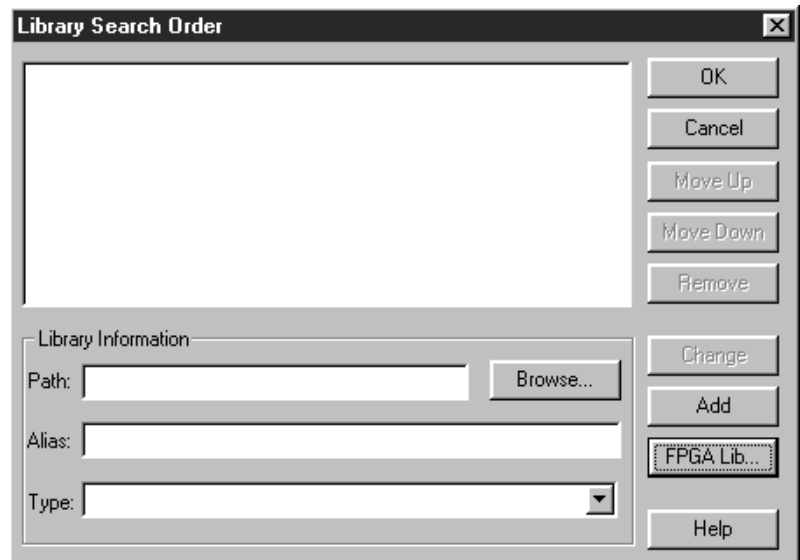
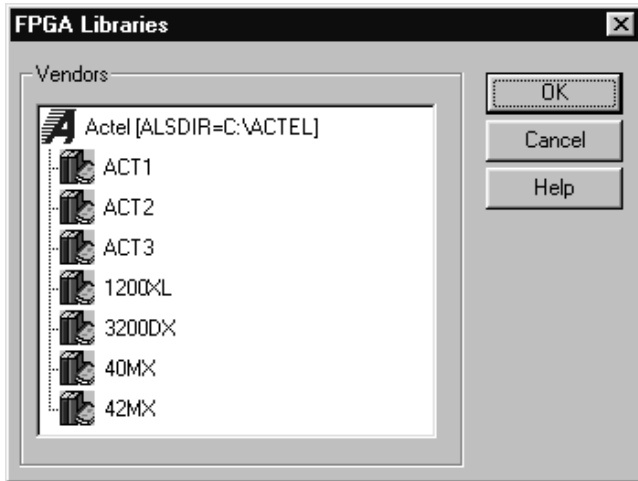

Figure 1-1. Library Search Order dialog box
Figure 1-2. FPGA Libraries dialog box
- 5. Select an Actel FPGA library.** Click the FPGA Lib button (see Figure 1-1). The FPGA Libraries dialog box is displayed (see Figure 1-2). Click the icon of the Actel library you want to select, then click OK.